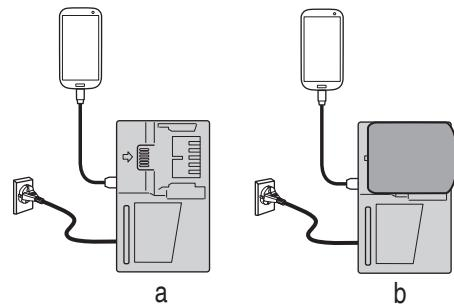

Fig. 49
- Charging a USB device from a electrical outlet (**Fig. 49-a**).
- Charging a USB device and battery from a electrical outlet. (**Fig. 49-b**)